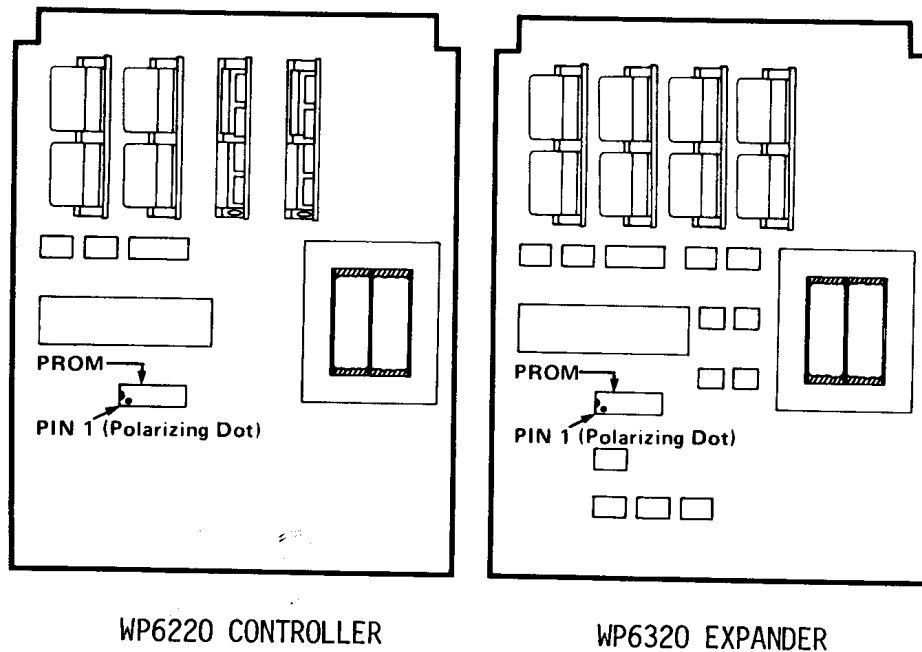

Figure 7-12 MicroMaster® PROM LOCATIONS
3. Insert the new PROM into the socket, making sure that Pin 1 (identified by the polarizing dot on top) is oriented correctly into the socket as shown in Figure 7-12 on page 78. **CAUTION!**:- Position the pins on the PROM directly over the holes in the socket and gently apply pressure to the top of the PROM. Apply only enough pressure to seat the PROM completely. If the PROM does not slide into the socket easily, remove it, reposition the pins, then apply gentle pressure until it is seated. A very slight end-to-end wiggle may be used to help seat the PROM. But, any lateral movement may damage a pin so avoid wiggling if